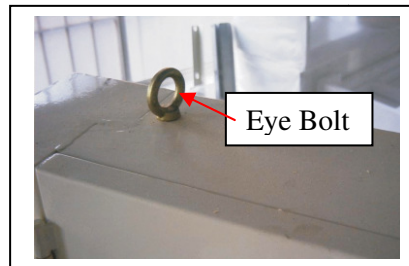

Figure 1
1. Place lifting hook through eye bolt. (see Figure 1)